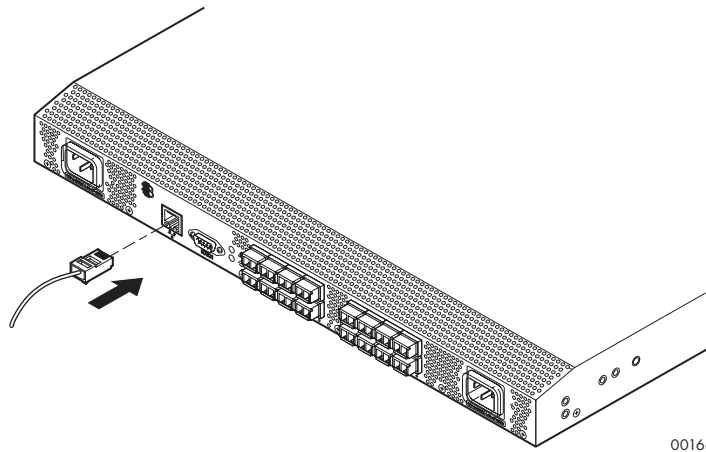

Figure 19 Connecting the Ethernet cable to the SAN Switch 2/16V
1. Connect an Ethernet cable to the Ethernet port and to the workstation or to an Ethernet network containing the workstation as shown in Figure 19.
NOTE: Figure 19 shows the SAN Switch 2/16V. This procedure is the same for all SAN Switches.